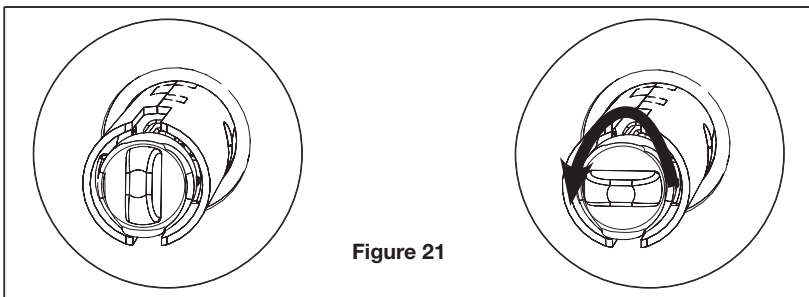

Figure 21
17. Rotate thumbturn **counter-clockwise** to horizontal position (Fig. 21).